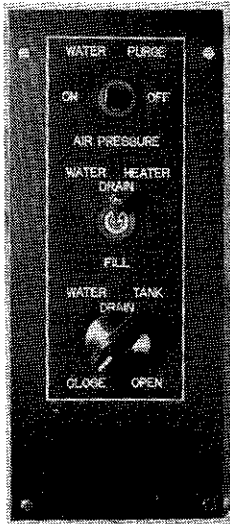

Figure 5-2. Water Purge Air Pressure, Water Heater Drain and Water Tank Drain Controls
1. Empty the Water Tank(s) — To drain tank(s), set the **Water Tank Drain** control (on the control panel in the bed base cabinet) to **Open**, figure 5-2.
The following procedures show the use of the various drain valves, controls and pressurized air system to remove the water from the plumbing and appliances in the fresh water supply system. Refer to figures 5-2 through 5-7 for the location of controls and valves.
4. Turn the **Water Tank Drain** control to **Open**, and the **WATER HEATER** switch to **Drain**. Both controls are located on a panel in the bed base cabinet or vanity, figure 5-2.
7. Set **Water Purge Air Pressure** switch, figure 5-2, to **On** to activate the solenoid which applies air pressure to the input water line to purge the water system. Note that it may be necessary to start the engine to build up air pressure.